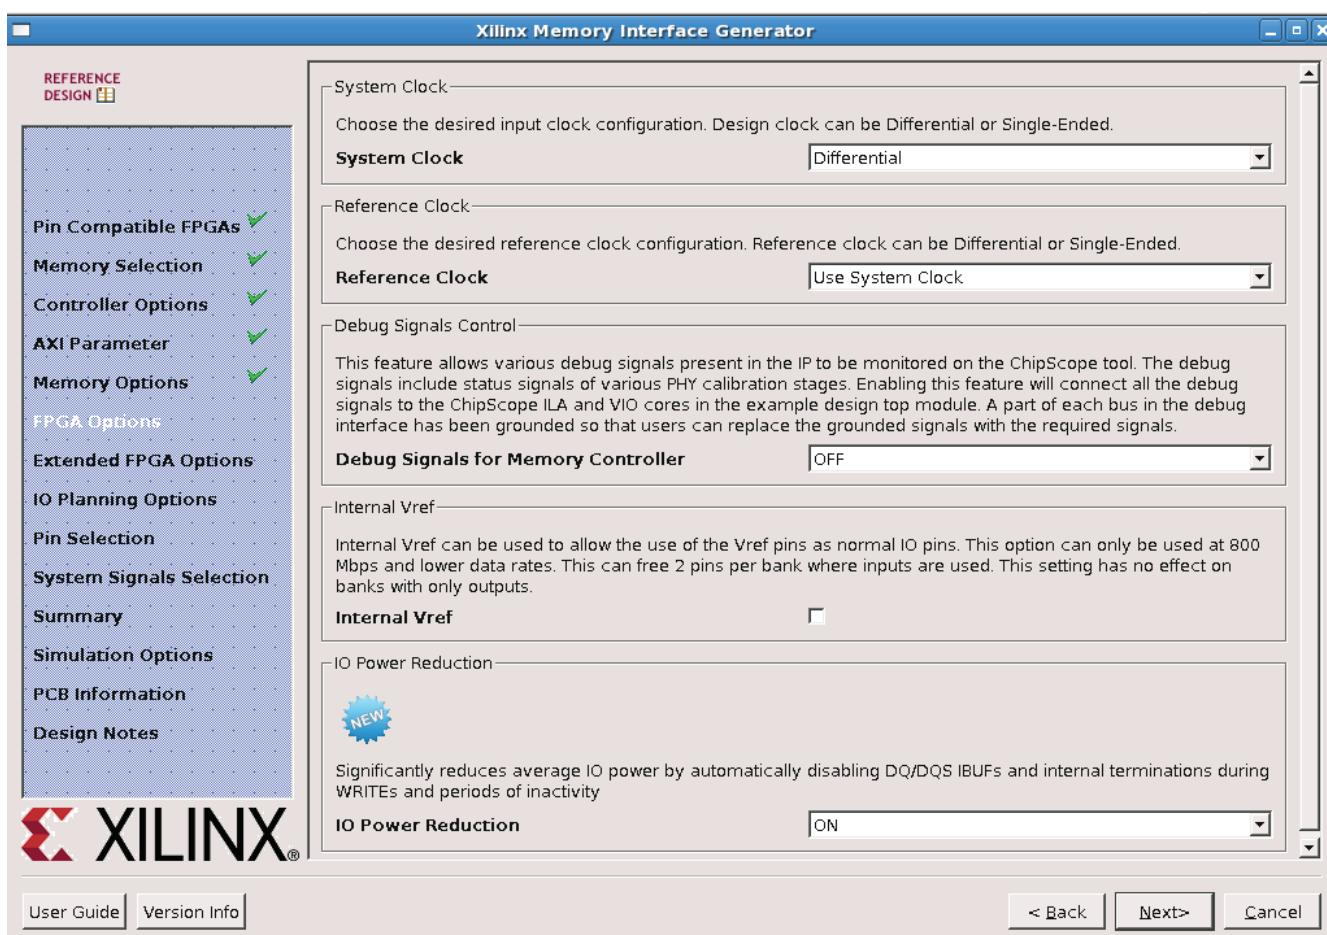

Figure 36: MIG FPGA Options
24. For FPGA Options, make the following selections, then click **Next** (Figure 36):